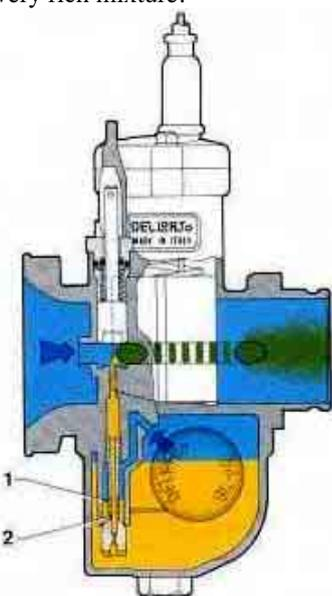

fig.16
**Figure 16** shows the mixture ratio depends entirely on the variety of drillings in the emulsion tube, because air passing through holes (2) draws up fuel which is standing in the jet well (1). In this period, the mixture strength is not determined by the starter jet size but only by the amount of fuel contained in the well above the float-chamber fuel level.